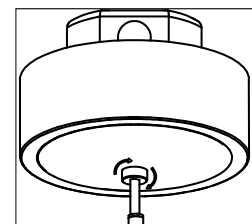

Figure 5: Canopy Mounting
7. Reattached canopy cover by turning lock screw clockwise while pressing canopy cover firmly to base. [Figure 5]